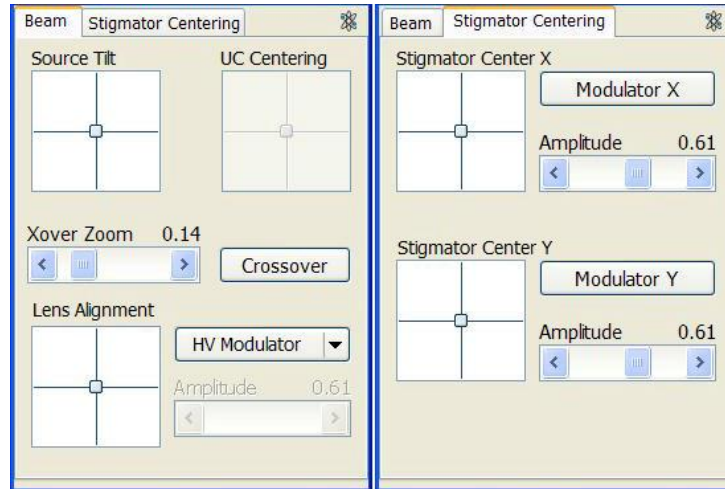

Figure 10
- a. Click the icon  and direct alignment will show up as a pop-up window (Figure 10 left or right panel).